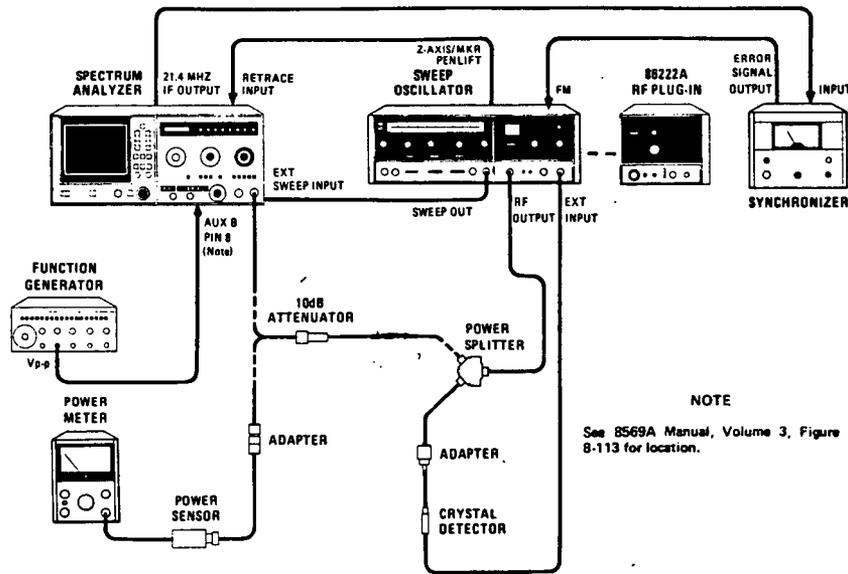

Figure 4-34. Frequency Response Test Setup (internal mixing bands)
2. Using .01 to 2.4 GHz RF plug-in source, connect equipment as shown in Figure 4-34. Connect output of power splitter, through 10 dB attenuator, to power sensor. With RF power off, zero the power meter. Turn RF power on.